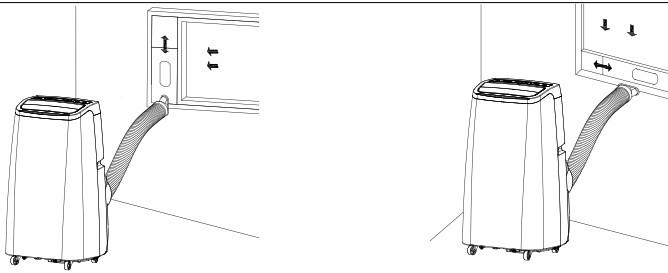

Fig. 6
- ▶ tighten the flat end of the connector (16) of the hot air exhaust duct to the elliptical hole (Fig. 6)